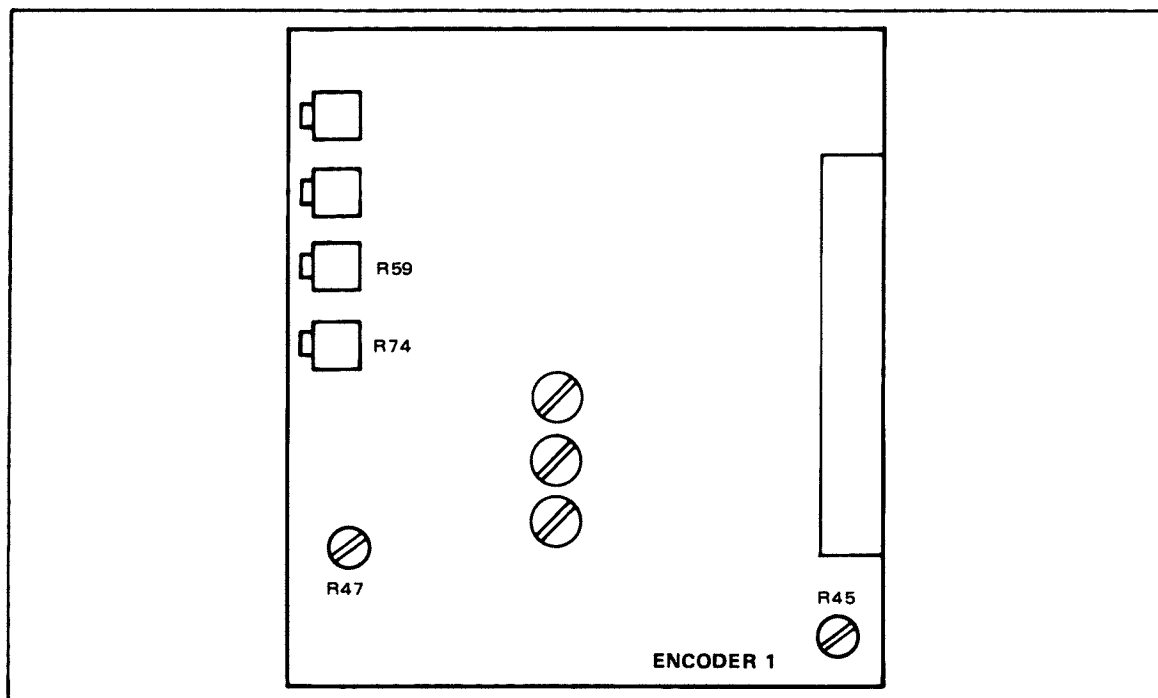

Figure 5-13. Encoder 1 PWA
- STEP 4** Observe color monitor and adjust R45 (RBG BAR) so that blue color bar width is equal to other color bar widths. There should not be a black bar after the blue bar. See Figures 5-13 and 5-14.